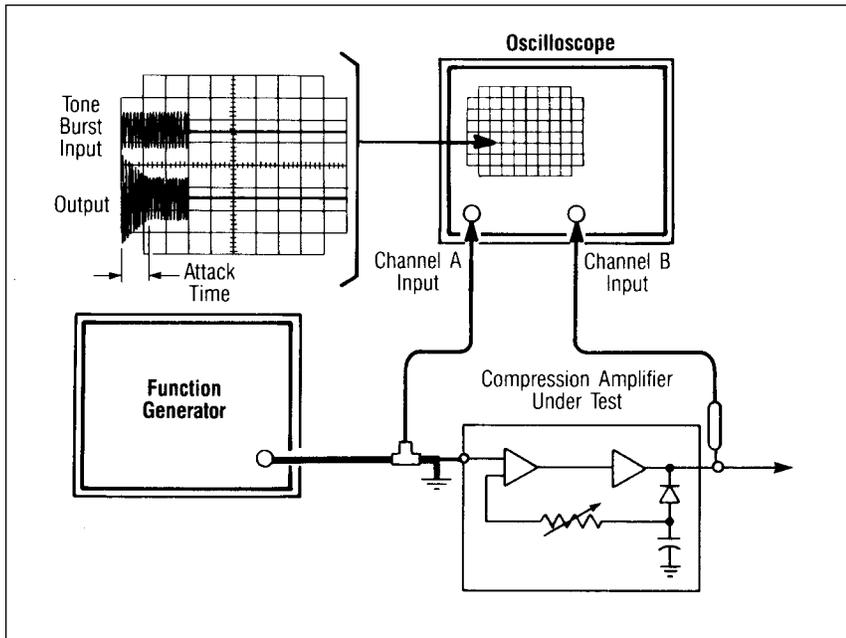

Fig. 21. Measuring attack time of a compression amplifier
1. Connect equipment as shown in Fig. 21. Using a dual-trace oscilloscope, display the input of the compression amplifier on one trace and the output on the other trace.
5. Using a calibrated time scale on the oscilloscope, measure the attack time, as shown in Fig. 21, and compare with the manufacturer's specifications.